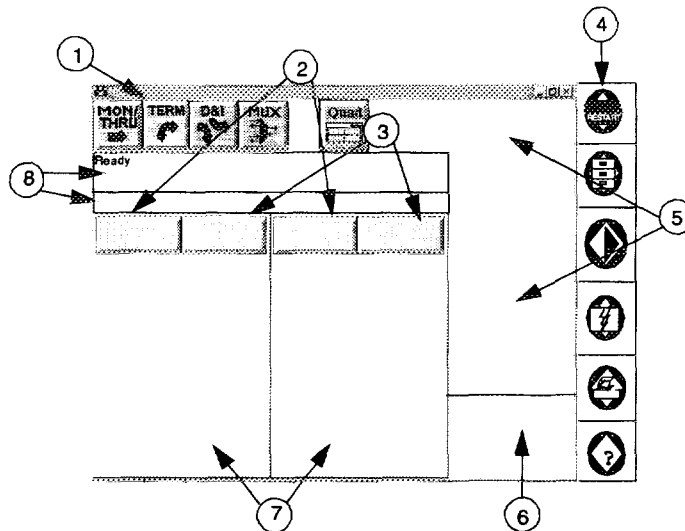

Figure 2-1. Main Screen
When you activate the T-BERD 2310, it displays the main screen (see Figure 2-1), which is the application configuration area. The main screen is used to provide setup and configuration data and to display test-specific action buttons.
The Main Screen is divided into eight areas (see Figure 2-1). Each area has a function, as described in the following paragraphs:
8. **Message Display** — This area (see Figure 2-1 and Figure 2-7) displays messages regarding activity associated with the current test application. The message display is comprised of: